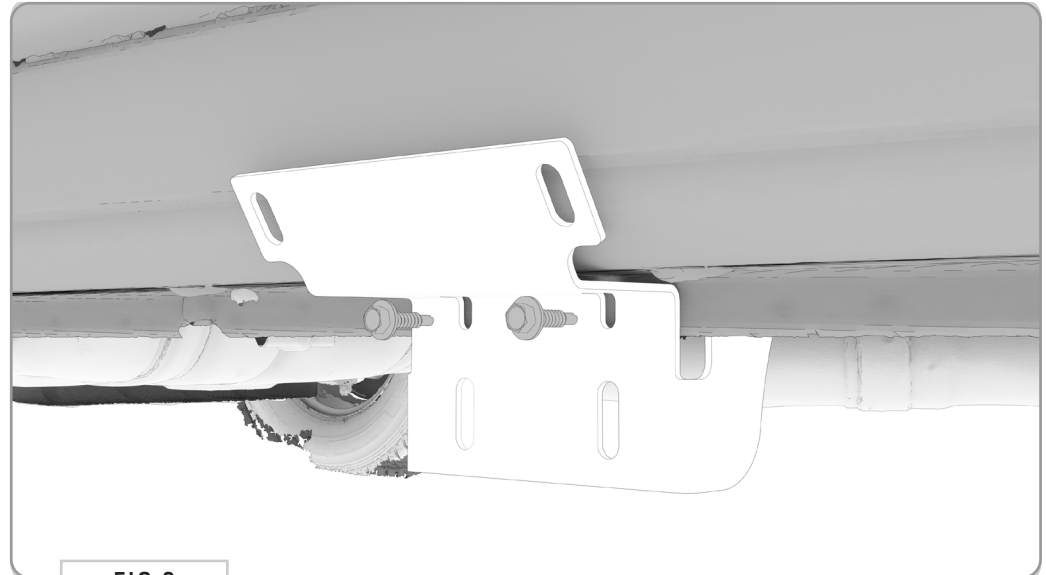

FIG 8
3.1 Position Hangar Bracket: Once you've determined where you'd like to install your **Surf Pole**, attach the **Hangar Bracket** to the van's **Pinch Seam** by driving **(2) 1/4-20 x 1 Self-Tapping Screws** through the front of the **Bracket** in the locations shown in **FIG 8**.